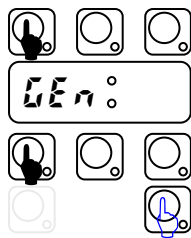

Fig. 3.1
- Enter into the USER SETTING mode by pressing and hold down ON/OFF and CYCLE\_1 keys for at least **five seconds** the display shows UEn (Fig.3.1);